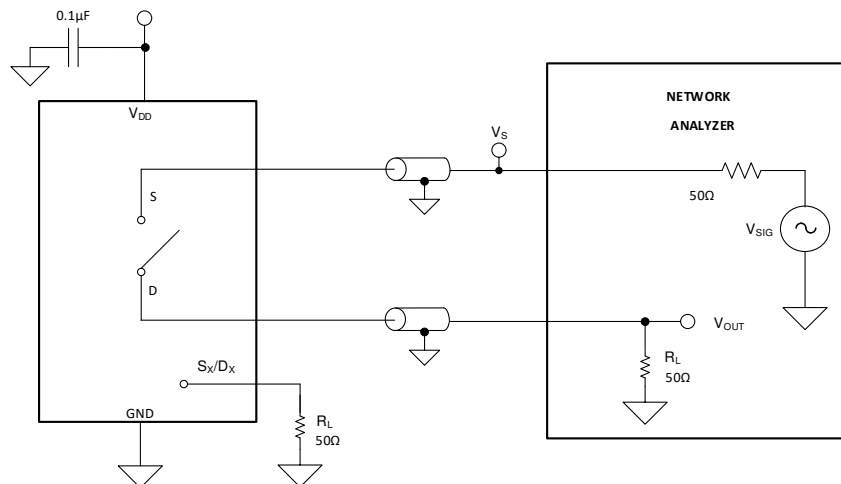

图 7-8. Off Isolation Measurement Setup
Off isolation is defined as the ratio of the signal at the drain pin (D) of the device when a signal is applied to the source pin (Sx) of an off-channel. 图 7-8 shows the setup used to measure, and the equation to compute off isolation.